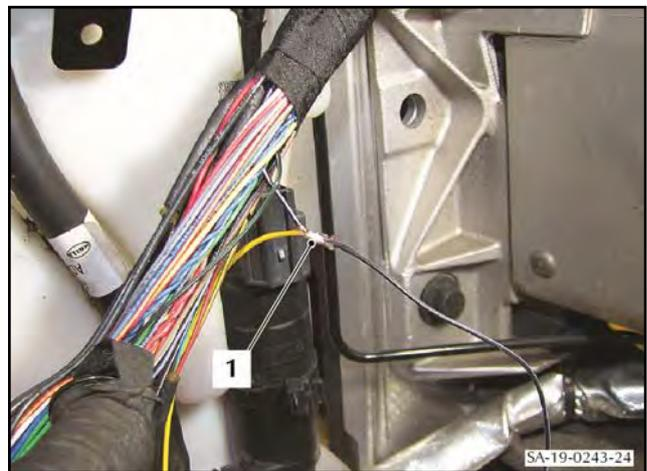

Figure 61
78. Apply solder to the crimped joint (1) (refer to Figure 61).